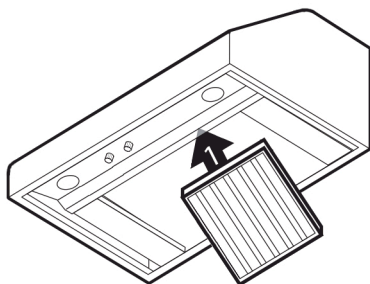

FIGURE 12: INSTALL THE STAINLESS STEEL BAFFLES – PART A
- a. Angle the baffle filter and insert front edge into front channel of hood (FIGURE 12).